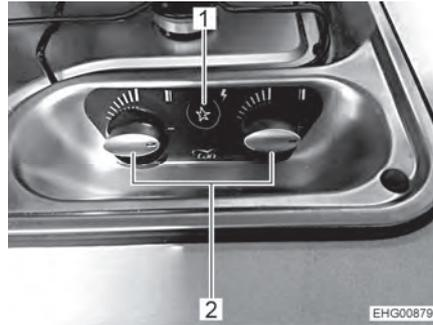

Fig. 127 Operating controls for gas cooker
- Turn the control knob (Fig. 127,2) on the burner you wish to use to the ignition position (large flame).
- Press the push button (Fig. 127,1). Ignition sparks are generated at the burner.